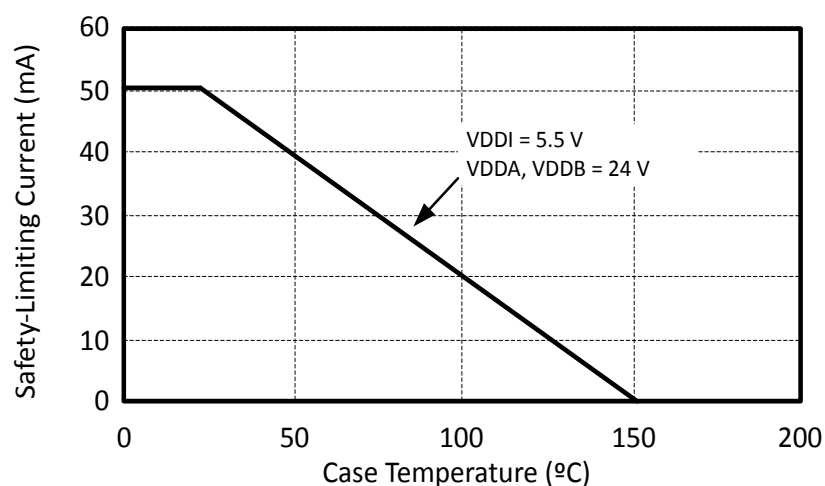

Figure 4.4. WB SOIC, NB SOIC, 14 LD LGA/QFN Thermal Derating Curve, Dependence of Safety Limiting Values with Case Temperature per VDE 0884-10
- Maximum value allowed in the event of a failure. Refer to the thermal derating curve in Figures [Figure 4.4 WB SOIC, NB SOIC, 14 LD LGA/QFN Thermal Derating Curve, Dependence of Safety Limiting Values with Case Temperature per VDE 0884-10 on page 32](#).